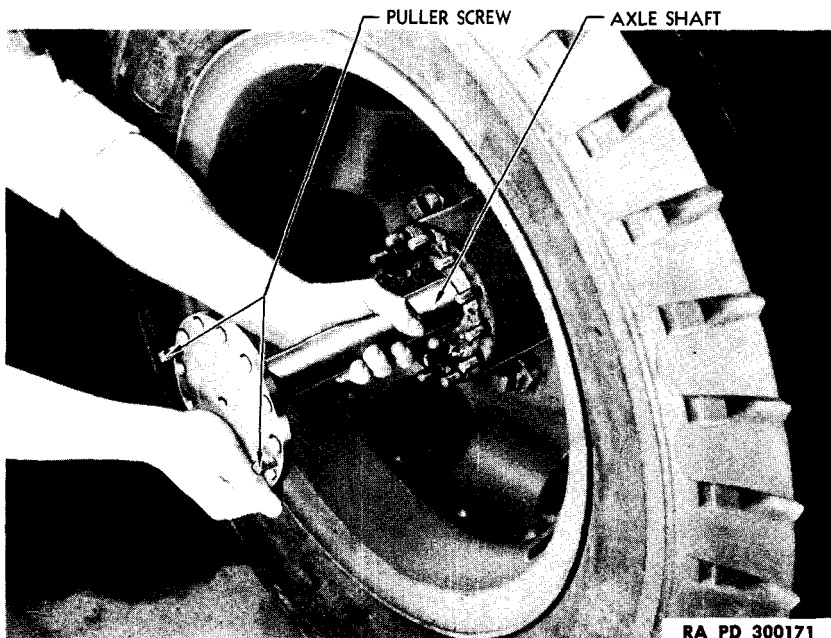

Figure 81—Removing Rear Axle Drive Shaft
- b. **Remove Axle Shaft.** Cut lock wire on puller screws (fig. 81) and while turning screws in, drive on axle flange with five-pound hammer and heavy drift. When flange loosens, pry out with pinch bar, and withdraw axle shaft.